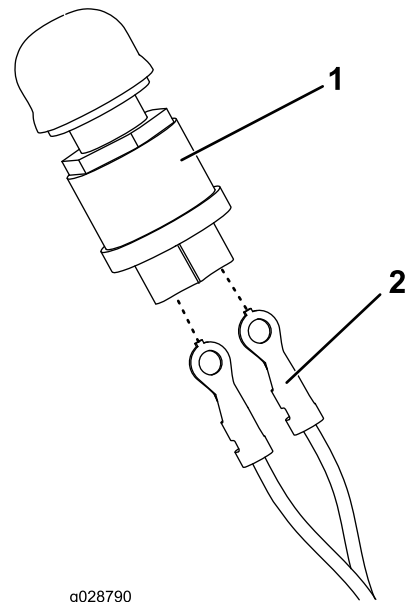

Figure 13
3. Connect the wiring harness to the horn switch (Figure 13).